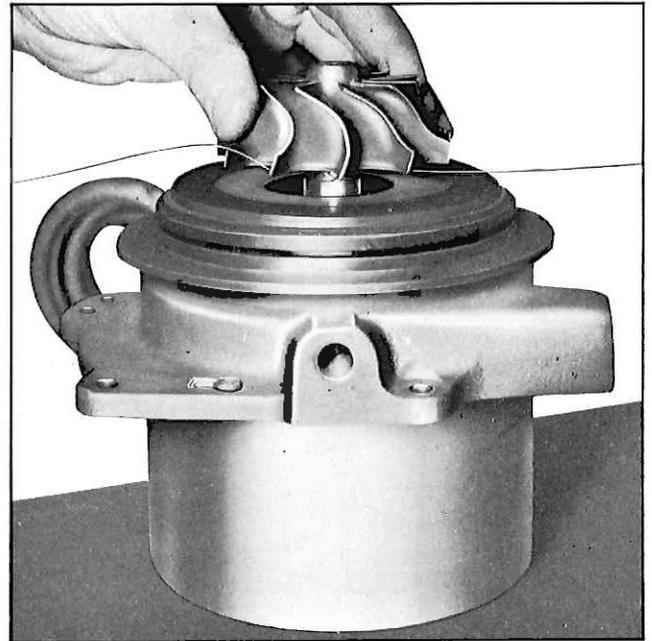

Fig. 33—Installation of Turbine Wheel and Shaft
12. Lubricate the shaft (bearing area) and carefully install through the bearing (fig. 33). The plastic ring is left on the shaft after installation since it will burn away. If wire was used,